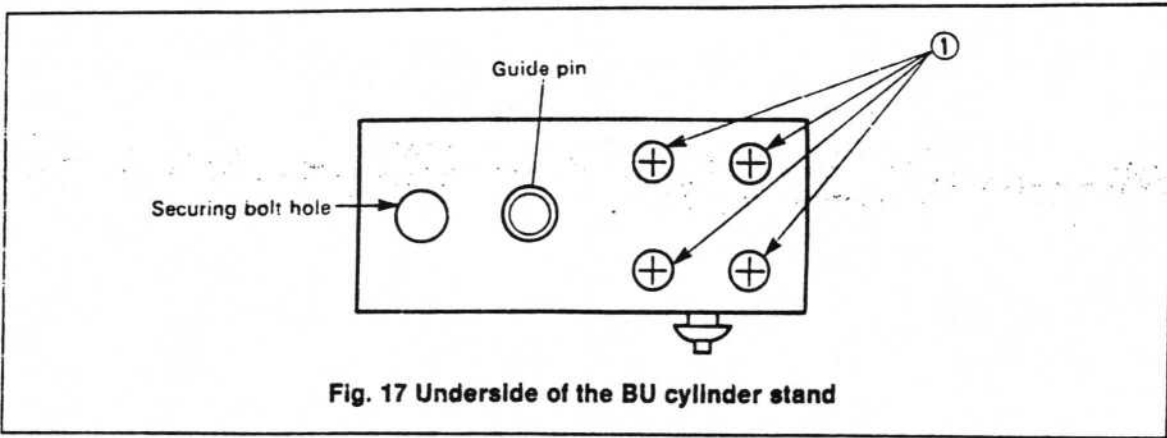

Fig. 17 Underside of the BU cylinder stand
3. Remove the flathead screws (①, x 4) and take off the cylinder (see Fig. 17).